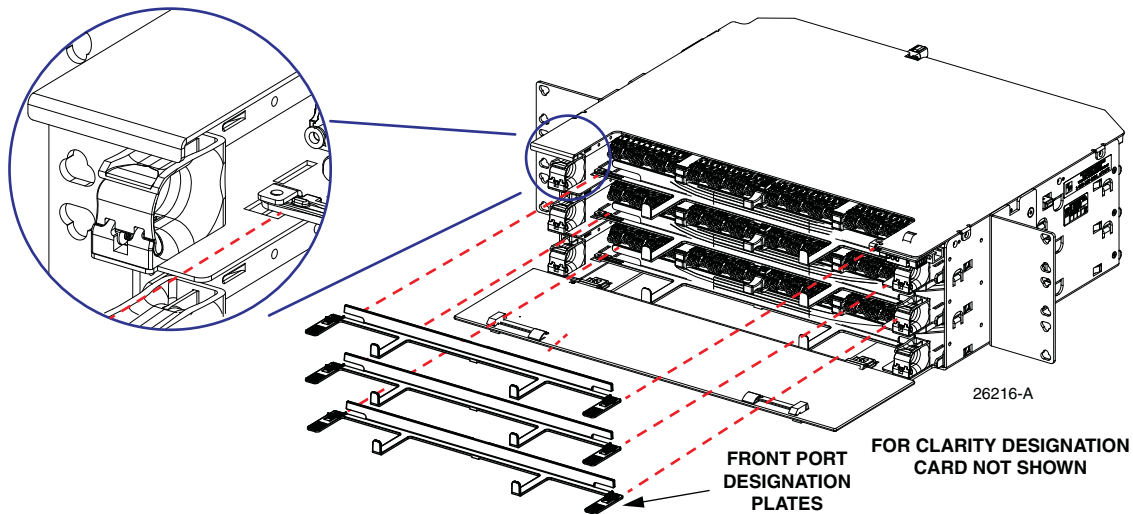

Figure 28. Installing Front Designation Plates
11. Locate and install the front port designation plates as shown in Figure 28. Slide in the designation plates until they reach the detents and snap into place.